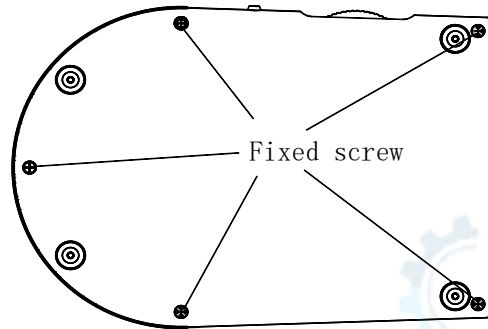

Fig. 8
B. Open the base: Laying the microscope steadily on the table, unscrew the fixed screw and pull out the bottom base cover. (Fig.8)